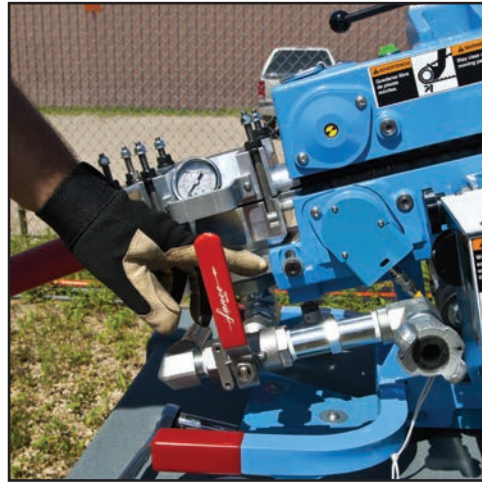

Figure 58. Level Air Block With Tractor Drive
2. Level the height of Air Block's Venturi Tube with Tractor Drive and the approximate center line of the cable (Figure 58). Tighten slide cap screws after adjustments are made.